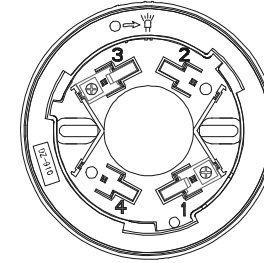

Fig. 2
1. Schematic diagram for installation of matched base, as shown in Fig. 2: